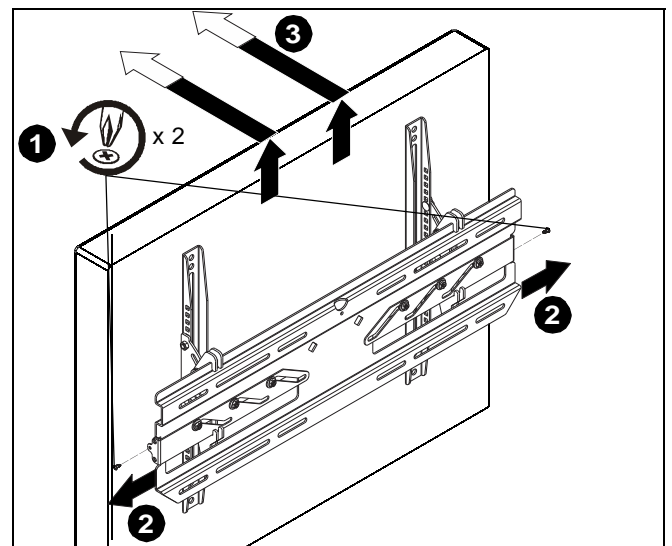

Figure 9
1. If applicable, remove the self tapping screws (not provided) and/or padlocks from both sides of the wall plate. This hardware provides security. (See Figure 9)
2. Slide the security latches out on both sides to disengage the display from the wall plate. (See Figure 9)
3. With an assistant, lift the display up and off the wall plate to remove the display from the wall. (See Figure 9)